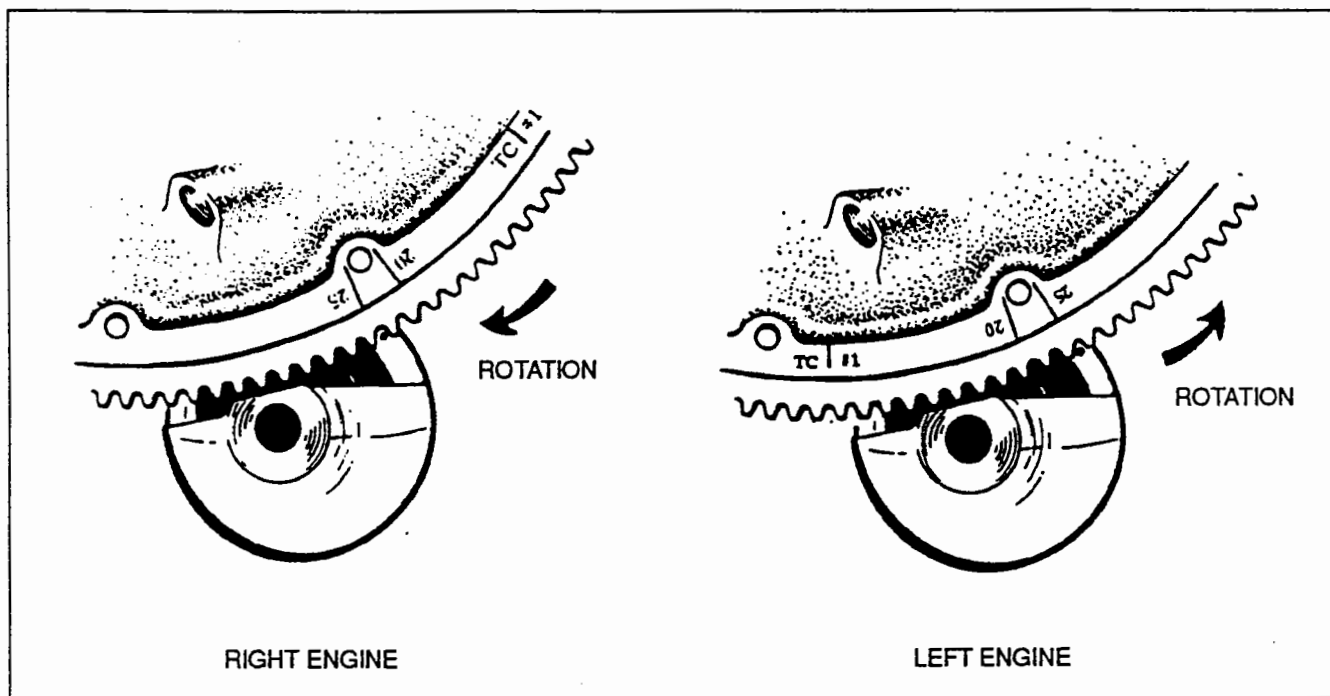

Figure 74-3. Engine Timing Marks
5. Continue turning the crankshaft until the 23° advance timing mark is in alignment with the small hole located on the top face of the starter housing at the two o'clock position. (Refer to Figure 74-3.)